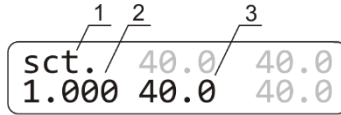

Figure 4. Display in calibration mode: 1. Calibration mode indicator; 2. Calibration coefficient; 3. Temperature with current coefficient
- 6.2. To change the calibration coefficient, hold the **TIME RUN/STOP** key pressed for more than 8 s to activate calibration mode. The calibration coefficient appears on the display (figure 4).
**Note.** Values marked in grey on figures 4 and 5 are not used in calibration and are meant for service engineers.
- 6.3. **Restoring factory settings.** Set 1.000 value using the ▲ and ▼ T, °C keys as shown on fig. 4/1 to restore the factory settings. Press the ►/■ **RUN/STOP** key once to save the changes and exit the calibration mode.
- 6.4.5. Hold the **TIME RUN/STOP** key pressed for more than 8 s to activate calibration mode (figure 4).